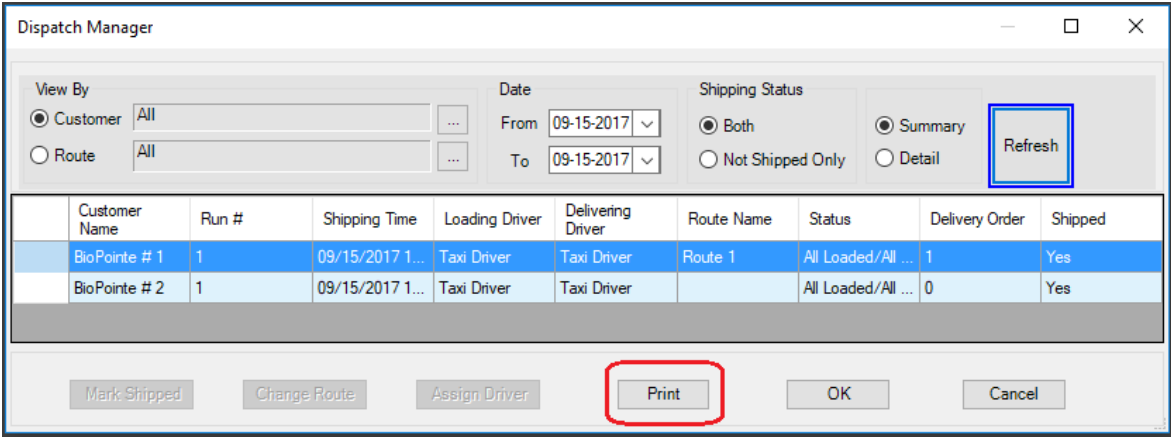

Fig 1
- a. From the Dispatch management module click on the Print button in the bottom right. Fig 1